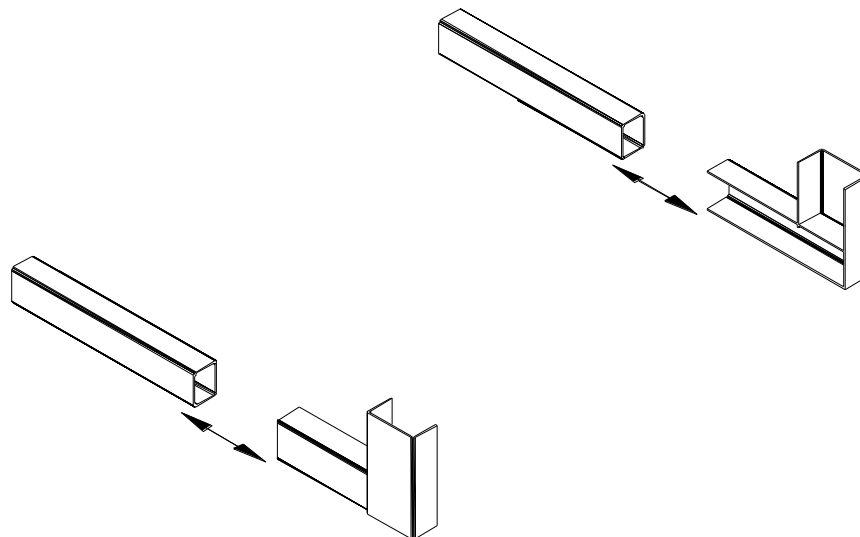

Figure 3
- 2) **Slide the "L" shaped adjusting legs over the tubing, as shown in Fig. 3, and weld in place.**